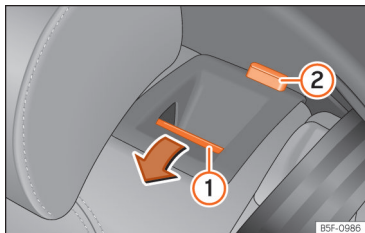

Fig. 108 Rear seat: folding the backrest.
- Press the unlock button »» **Fig. 108** ① forwards and at the same time fold the backrest